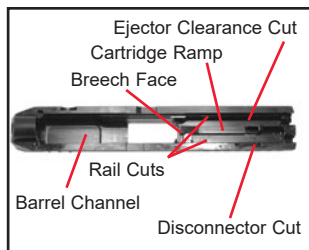

Figure 26
2. Spray the Slide with Rem Action Cleaner, including the breech face, barrel channel, rail cuts, disconnecter cut, and ejector clearance cut. See Figure 26.